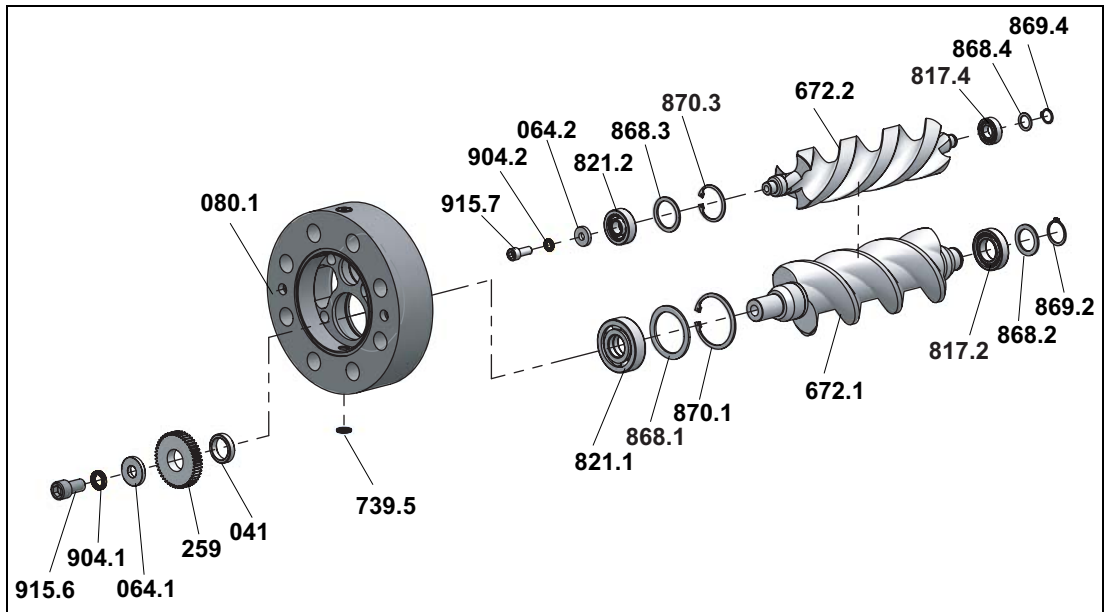

Fig. 25
4. Remove the lock washer **904.1** and supporting disc **064.1**. Turn in the socket screw **915.6** back completely in order to pull the pole wheel **259** and bearing cover **080.1** from the set of screws using a pulling-off device. Remove the sleeve **041**. Overview see Fig. 25, page 36.